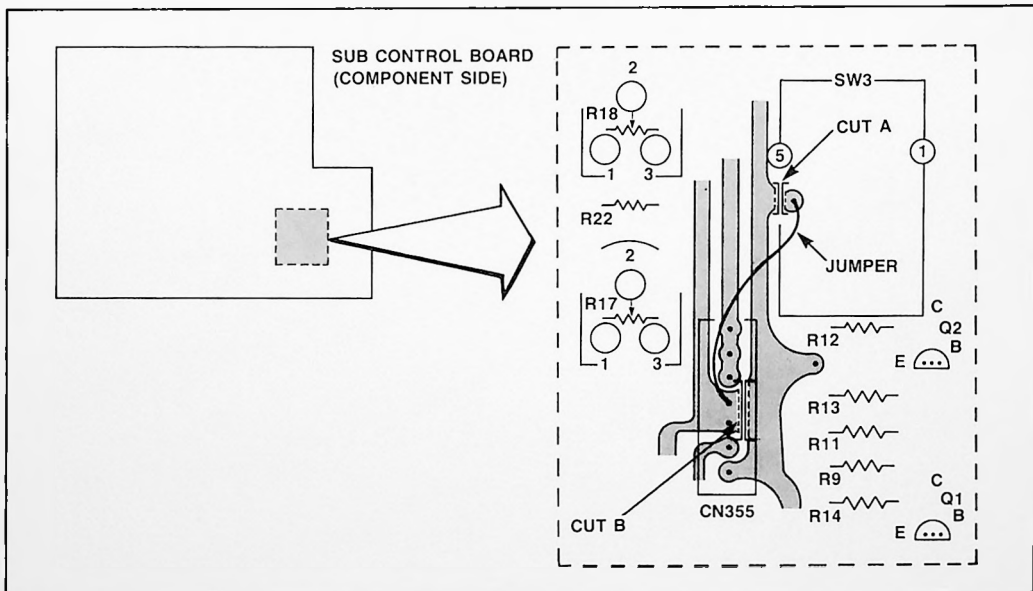

Figure 1
1. Cut the foil to SW3-7 on the component side. (Cut A, Figure 1.)
2. Cut the foil to CN355, pins 3 and 4, to isolate them from CN355-6. (Cut B, Figure 1.)